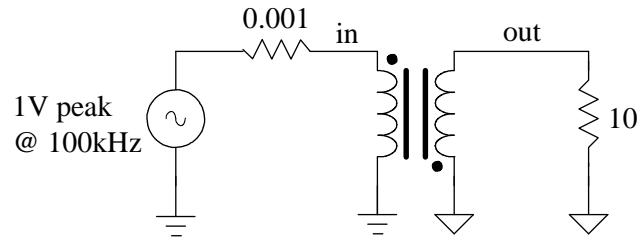

Figure 32.53 Circuit for problem 32.10.
- 32.10** For the circuit seen in Fig. 32.53 assume the primary's inductance is 10 mH, the secondary's inductance is 100 μ H, and that the resistance of the 0.001 Ω resistor is negligible (it's included so a voltage source doesn't directly drive an inductance in the simulations). Using hand calculations find all voltages and currents in the circuit. Verify your hand calculations using simulations.